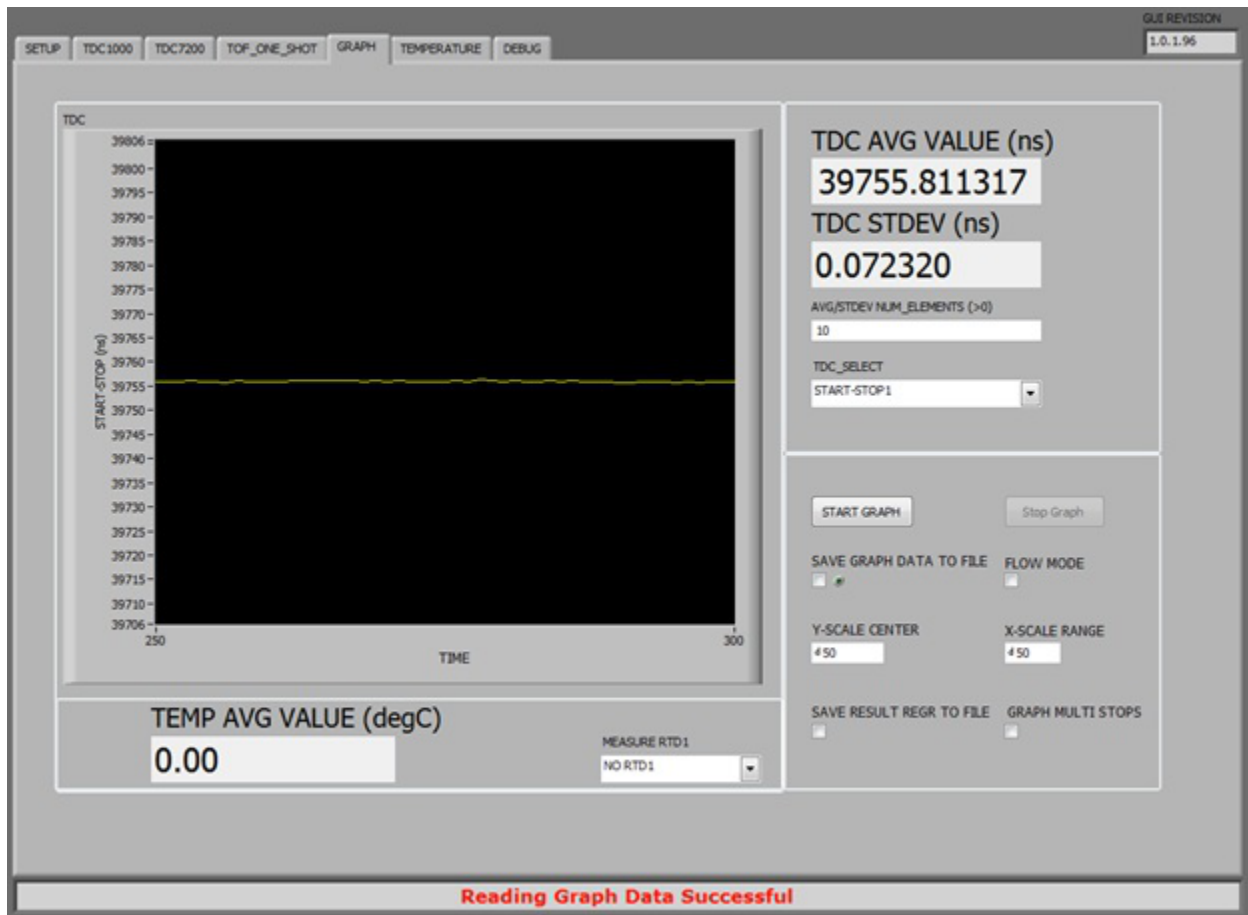

Figure 5-3. Plot of TOF of Water in Test Cell
3. Go to the GRAPH tab on the TDC1000-7200EVM GUI and click START GRAPH. The time of flight (TOF) displays in the TDC AVG VALUE window (see Figure 5-3). Note: the default settings work correctly for the test cell discussed in Chapter 2.